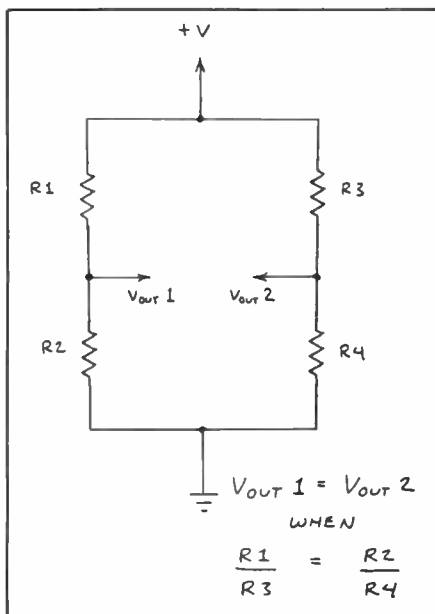

Fig. 10. The schematic of the Wheatstone bridge circuit.
• **The Wheatstone Bridge.** A Wheatstone bridge is composed of two voltage dividers connected in parallel with each other, as illustrated in Fig. 10. When the voltage from the first divider,  $V_{out1}$ , equals that
A common use of the Wheatstone bridge is the measurement of an unknown resistance. Referring to Fig. 10, assume that the values of  $R_1$  and  $R_2$  are accurately known, that potentiometer  $R_4$ 's scale is accurately calibrated, and that  $R_3$  is an unknown resistance. After  $R_3$  is connected into the bridge,  $R_4$  is adjusted until the bridge is balanced. The resistance of  $R_3$  is then  $(R_1 \times R_4)/R_2$ .